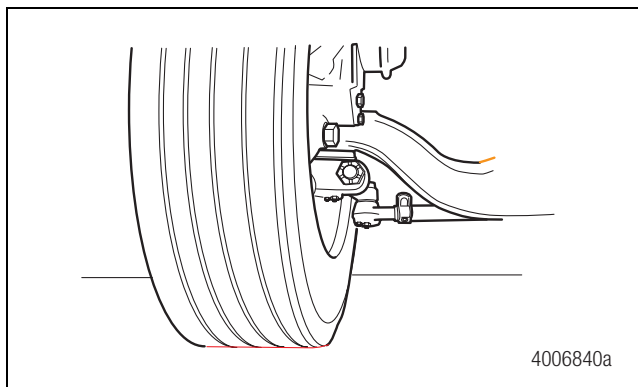

Figure 2.26
2. Verify that the tires touch the ground. Do not raise the vehicle. The full weight of the vehicle must be on the axle assembly. Figure 2.26.